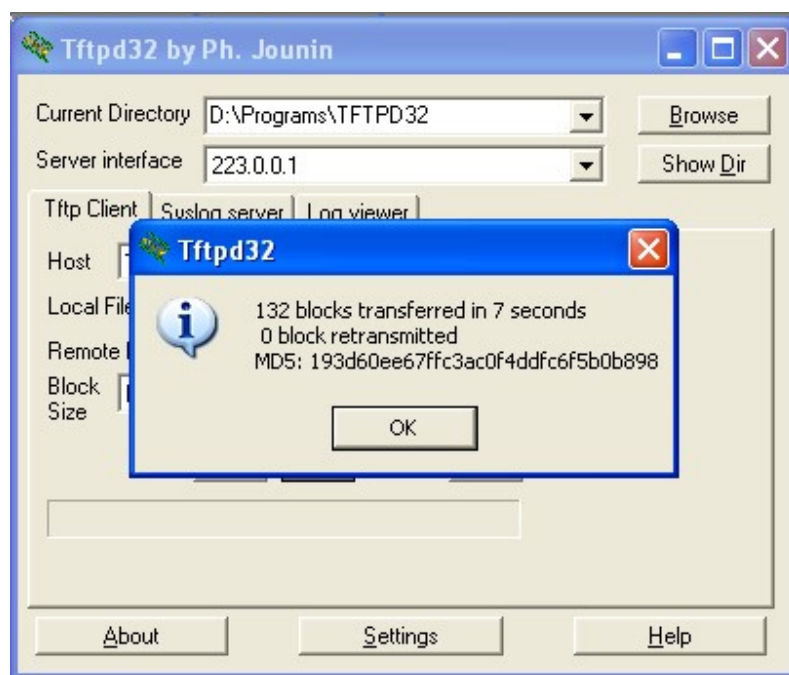

Figure 12 Tftpd32 utility, firmware transfer finish message window
- 3.1.7. After firmware file has been found, press “Put” button, it begin firmware upgrade process. If all sequence, that is described above, has been done successfully, after number of second delay you will see that yellow LED is blinking – this indicate that firmware upgrade process is running. After firmware process is finishing, yellow LED is switched off and data transfer finish message window is appearing (see **Figure.12**)